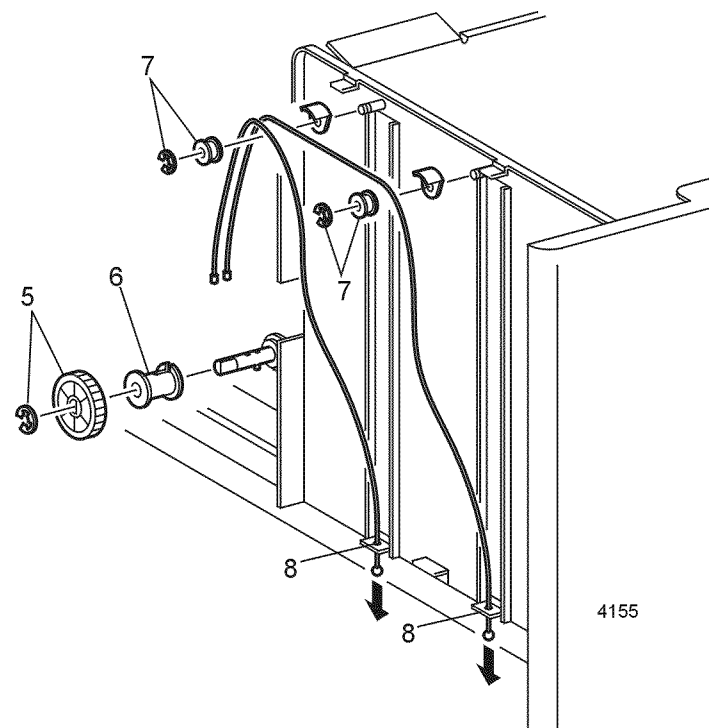

Figure 1 Left Tray Wires
6. Remove the Cable Pulley from the shaft (Figure 1).
7. Remove the E-rings and pulleys from the two shafts on the tray assembly (Figure 1).
8. Remove the wires down through the holes in the tray assembly (Figure 1).
1. Ensure the black plastic wire guides are at the top of the pulleys (Figure 1).